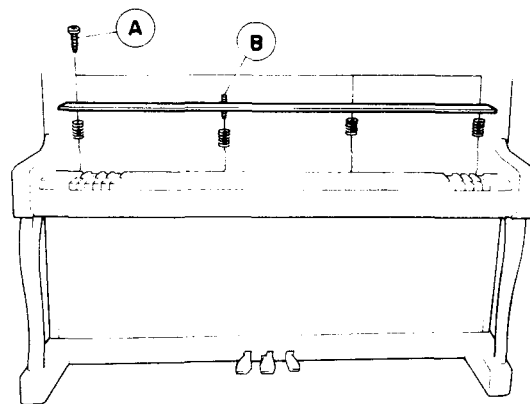

Figure 2.
- 7) Remove the three screws shown at (A) in Figure 2, and the bolt shown at (B). Remove the Key Stopper Assembly.